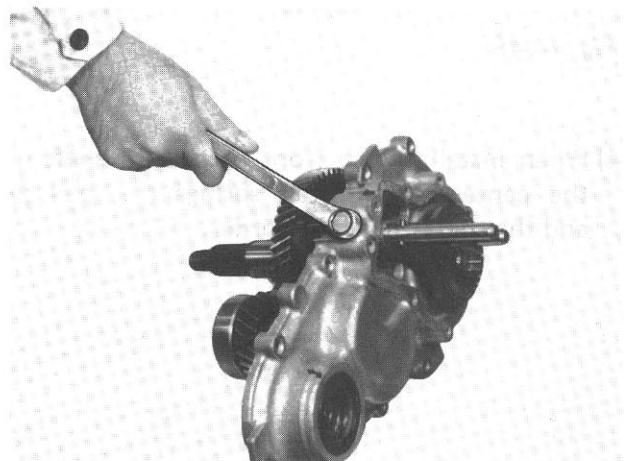

*Fig. 14-55*
- 8) Fit the fork ⑫ and stop pipe ⑬ on the front drive shift shaft and lock them with spring pins. The fork ⑫ should be fitted in the correct direction according to Fig. 14-55. Also, drive a spring pin into the other shift shaft.